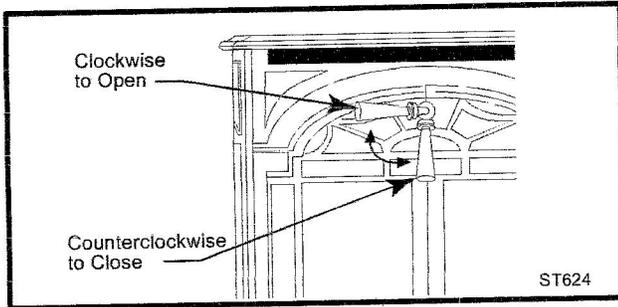
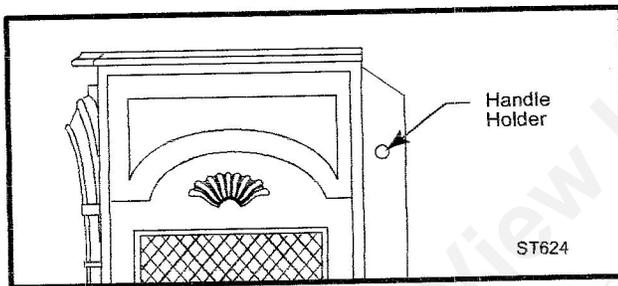

Fig. 59 To open the front doors, turn handle clockwise.
Fig. 60 When not in use, store handle in the handle holder.
1. Hold the front plate by the window bars and lift it into position, engaging the two steel tabs on the top corners behind the adjacent bosses in the side plates. (Fig. 59) Then seat the Front against the sides so the tabs at the bottom lip engage with the notches in the stove legs. When properly installed, the bottom of the Front Plate cannot be pulled away from the sides without also lifting it.
The Stardance may be operated with the solid front plate in place or with the operable door front plate in place with the doors open or closed. To open the front doors, insert the handle into the door latch stub and turn it to the left and up. (Fig. 59) When not in use, the handle may be stored in the handle holder on the right side of the rear shroud. (Fig. 60)